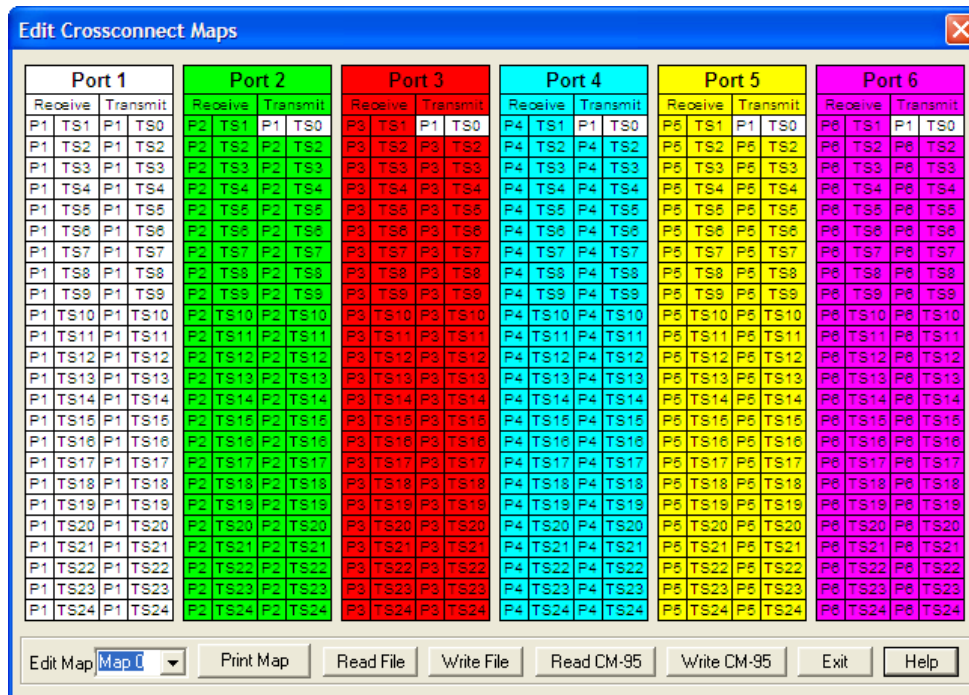

Figure 5-12. Edit CrossConnect Maps
1. In the Configuration pane, on the **Map Control** tab (Figure 5-11), click **Edit Maps**. A progress dialog box indicates that IntraGuide is communicating with the DCS and reading in the current map configurations. Then the **Edit CrossConnect Maps** window appears. Figure 5-12 shows this window with the initial defaults.
When you finish editing a map, click **Write File** in the **Edit CrossConnect Maps** window to save the map to a file and enter a name for it (Figure 5-12). Each map has its own file with the extension .mpf (map file). A map file is not associated with the device configuration file that is open when you create the map file. Therefore, it is helpful to give the map file a name that matches the name of the configuration file if you want to keep the association clear. For example, when saving a configuration file called myDCS.icf, you may want to call the map file for map 5 in this configuration myDCSmap5.mpf.
1. In the Configuration pane of the **Map Control** tab, click **Edit Maps** (Figure 5-11). The **Edit CrossConnect Maps** window appears (Figure 5-12).